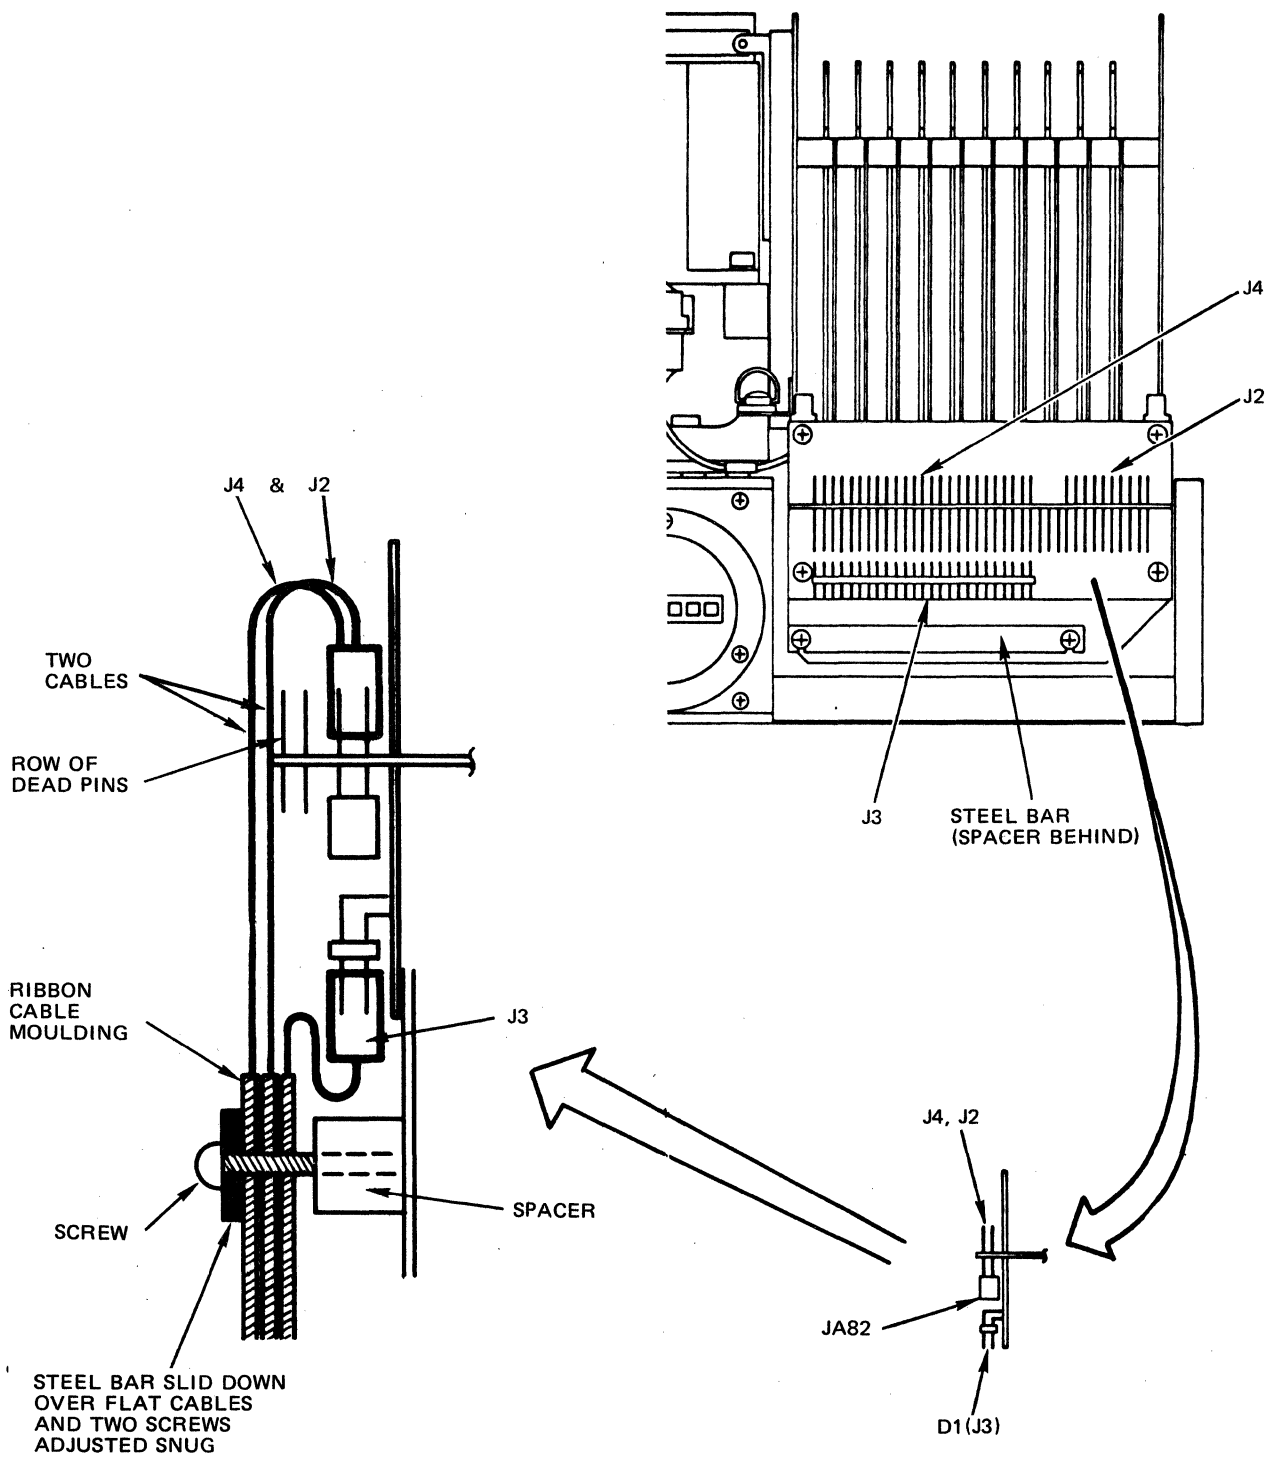

Figure 2-13 I/O Flat Cable Connection to Drawer
2. At rear of drawer (see Figure 2-13) remove cable clamp (steel bar) and plastic spacer by removing two screws and washers. Set hardware aside temporarily.
4. Locate plastic spacer, two screws, and washers and mount plastic spacer into position against J3 I/O flat cable and J3 connector as shown in Figure 2-13. Hold spacer in place by loosely inserting the two screws and washers into the two screw mounting holes.
8. Slide steel bar (see Figure 2-13) down over the three flat cables and under the two screw heads.